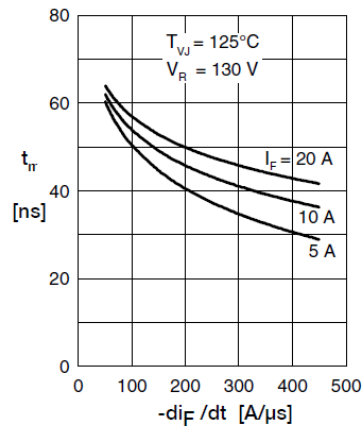

Fig. 5 Typ. reverse recov. time t_{rr} versus $-di_F/dt$
- 17) Calculate the reverse recovery time of the diode by using the graph in Fig. 5.